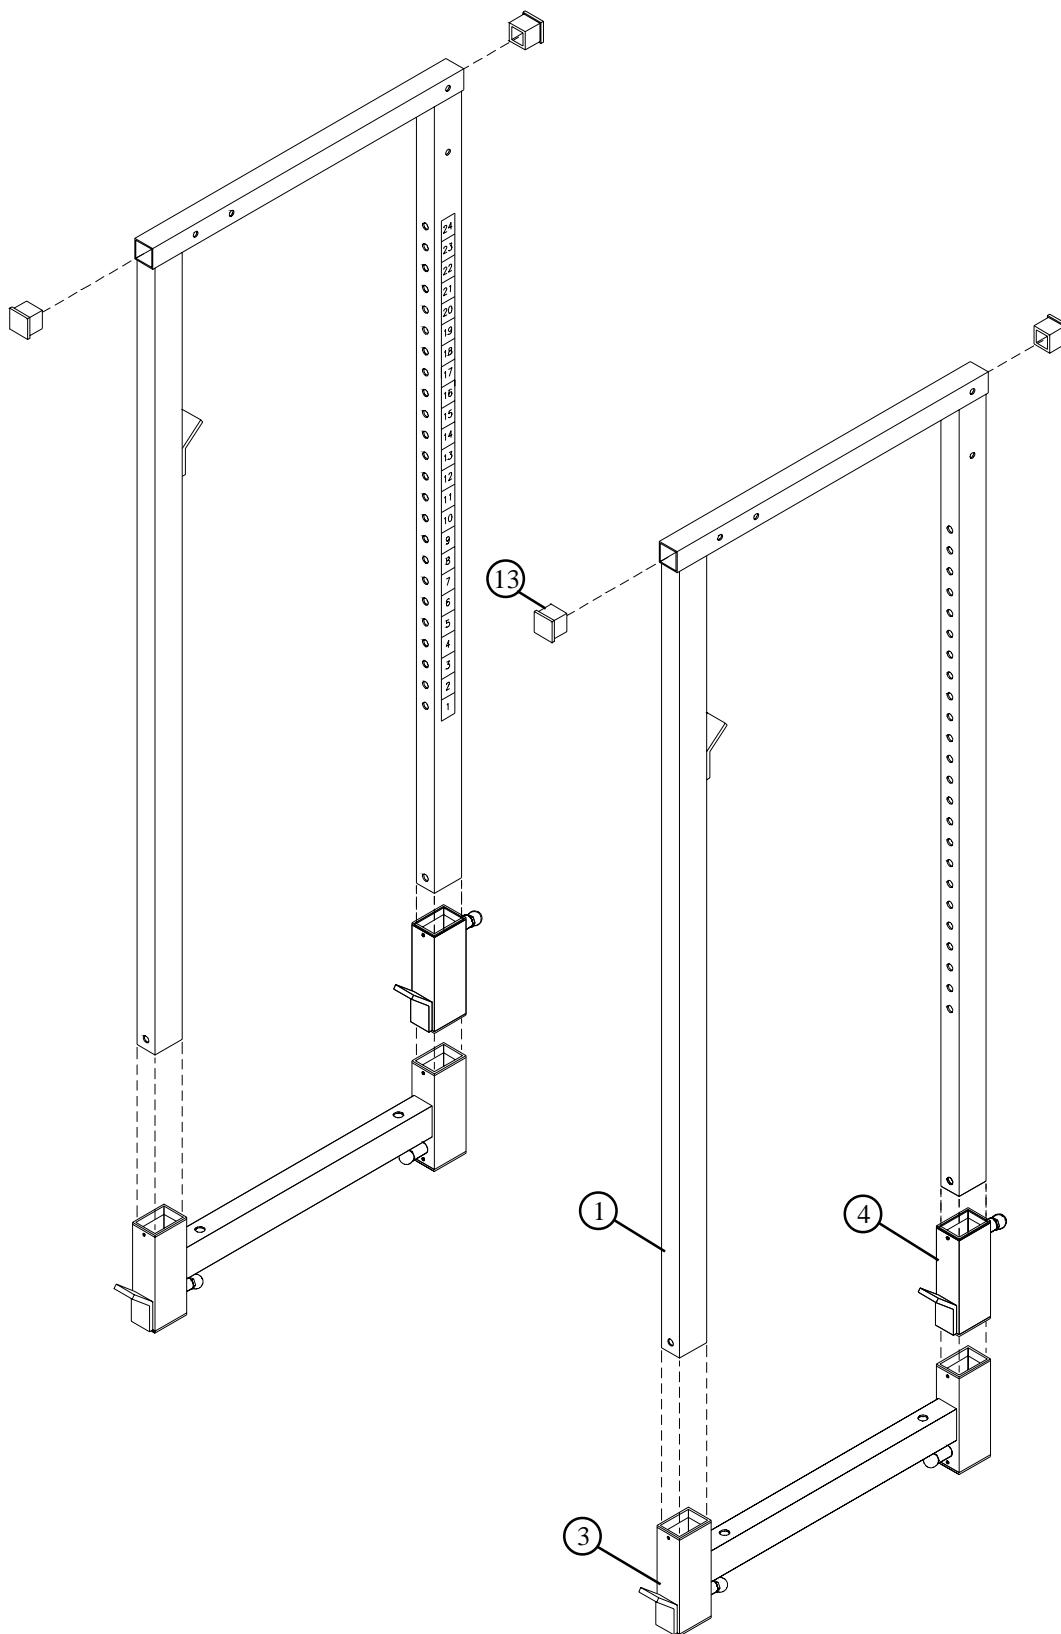

FIGURE 3
- Insert four 2" SQ. END CAPS (13) into the ends of the UPRIGHTS (1) as shown in FIGURE 3.
- Slide one BAR SUPPORT (4) and one SAFETY RAIL (3) (**IN THAT ORDER**) onto each UPRIGHT (1). Pull back on the SPRING PIN ASSEMBLIES until they pop into holes.